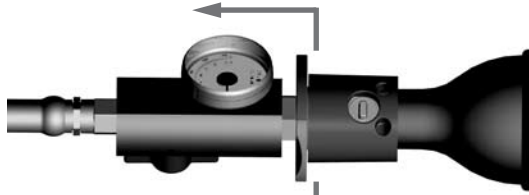
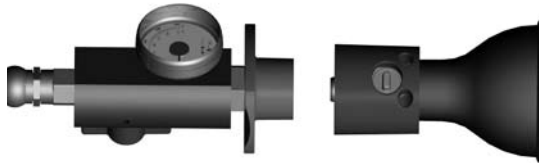

Figure 8i - Retract Quick Coupler
Figure 8j - Disconnect Hose
12. Retract the spring-loaded Quick Coupler on the Streamline Filler Hose Assembly (Fig. 8i) and detach the Filler Hose Assembly from the Nozzle. (Fig. 8j)